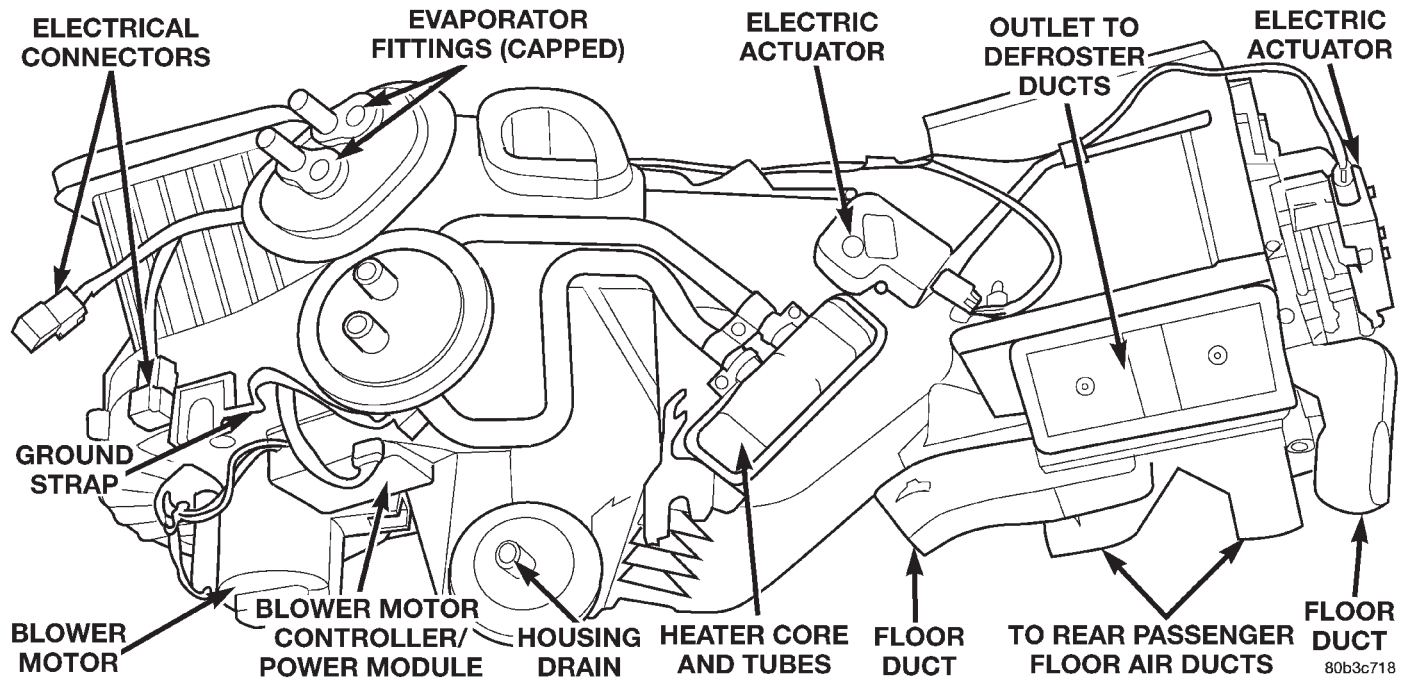

Fig. 55 Heater Core and Tubes
(4) Remove the mode door actuator if necessary, for clearance to remove the core.
(5) Lift the heater core straight up and out of the heater-A/C housing (Fig. 55).
(6) When replacing individual tubes, loosen and remove the round tube-to-core clamp, and pull tube from core.